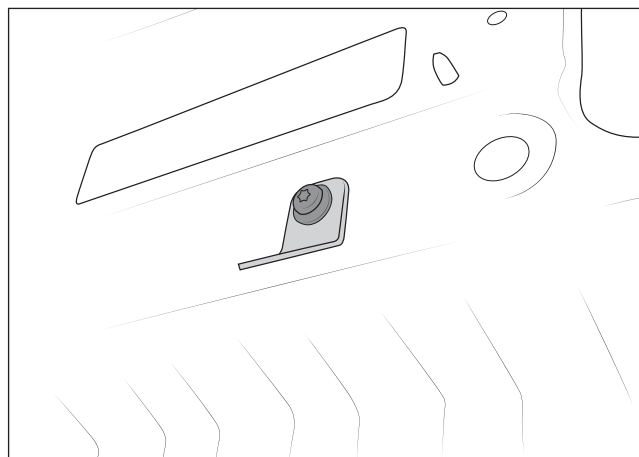

Figure 13
6. Install AEV bracket into Riv-Nut using supplied M6 x 20 hex head bolt (fig. 13).